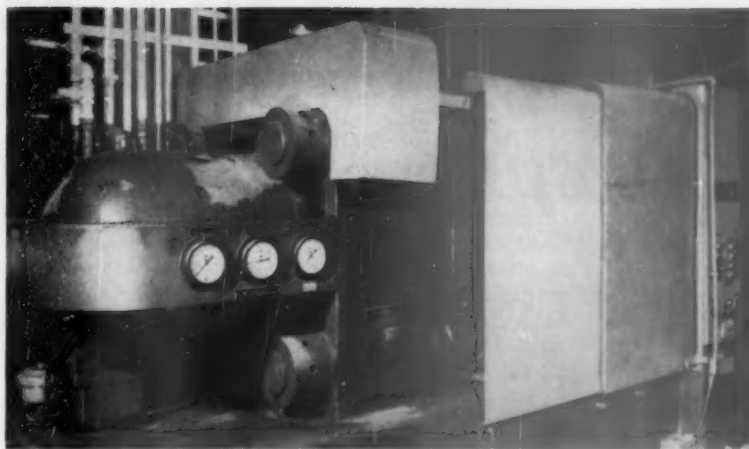

Figure 4. Die casting machine with metal splash guard that covers casting operation completely and actuates machine when closed. (Courtesy Western Electric Co.)
30. Figure 4 illustrates a die casting machine equipped with a telescoping sheet metal guard which